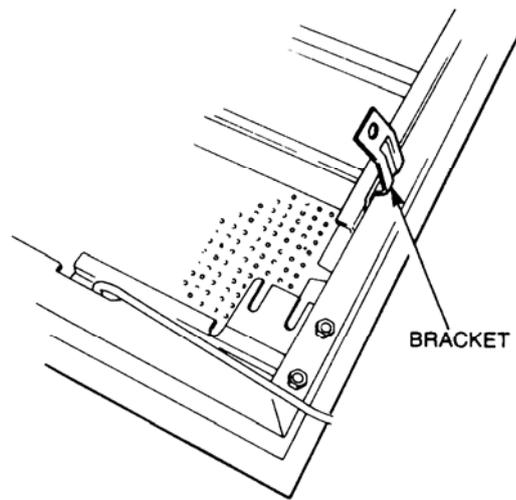

Figure 32 Window Glass Removal
- ll. Carefully bend back the bracket at the lower end of the forward channel (refer Figure 32).
- q.** Bend the inner panel mounting (refer Figure 32) back into position.